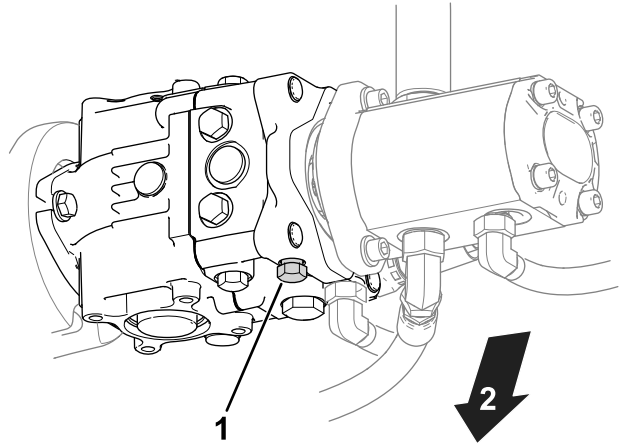

Figure 37
1. Locate the bypass valve on the pump (Figure 37).